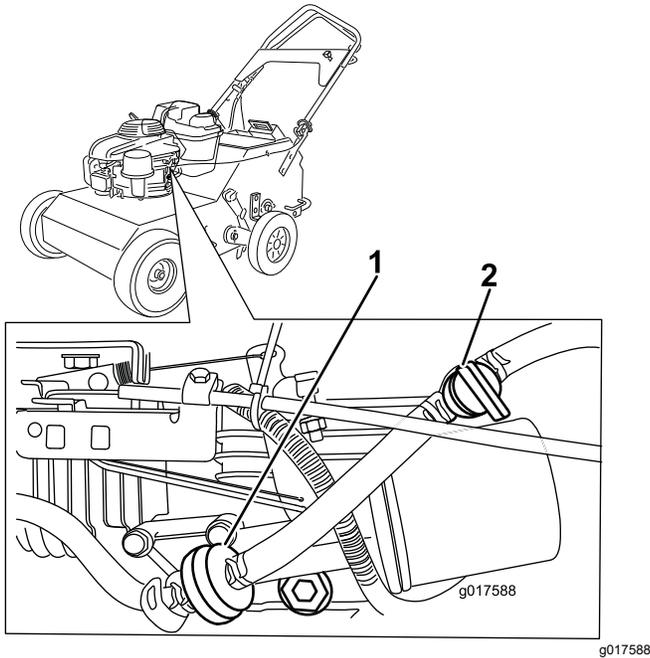

Figure 42
3. Close the fuel valve (Figure 42).
4. Squeeze the ends of the hose clamps together and move them away from the filter (Figure 42).
6. Install the hoses onto the fittings of the new filter (Figure 42).